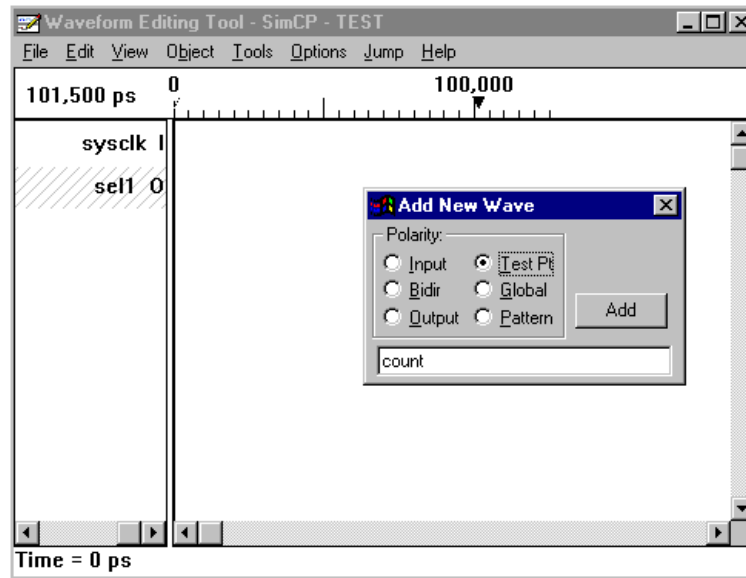

Figure 1-7. Add New Wave Dialog Box
5. Select the **Edit** ⇒ **New Wave** menu item, and the Add New Wave dialog box displays (Figure 1-7).